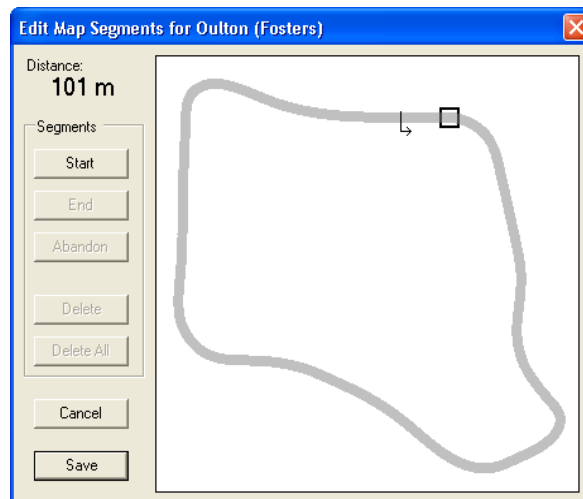

Figure 23 - Edit Map Segments Dialog (No Segments)
2. Choose **Map** → **Edit Segments** from the main menu or select the **Edit Segments** from the circuit map context menu. The Edit Map Segments dialog (Figure 23) appears.